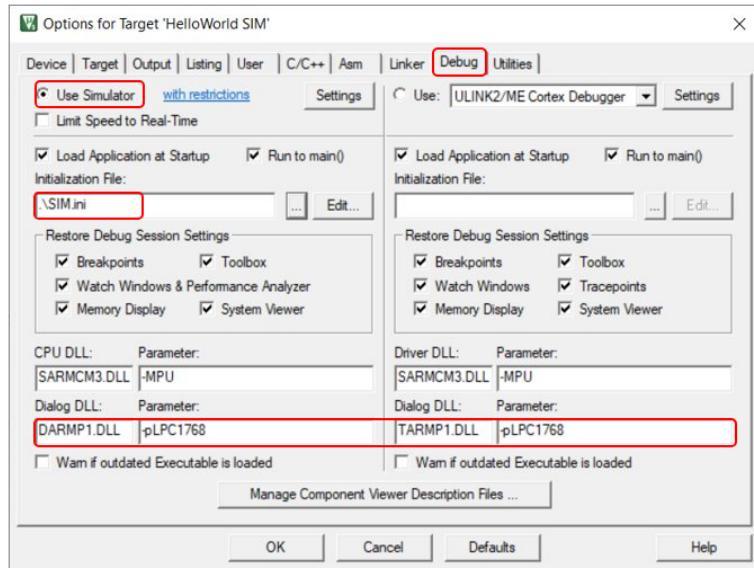

Figure 7.19: Keil IDE: Target Options Debug Tab Configuration
1. Open up the target option window and select “Use Simulator” in the Debug tab and set the Dialog DLL and Parameters as shown Figure 7.19. The debug script `SIM.ini` provided in the starter code (see Listing A.1 in Appendix A) is needed to map the second bank of RAM area read and write accessible on the simulator.